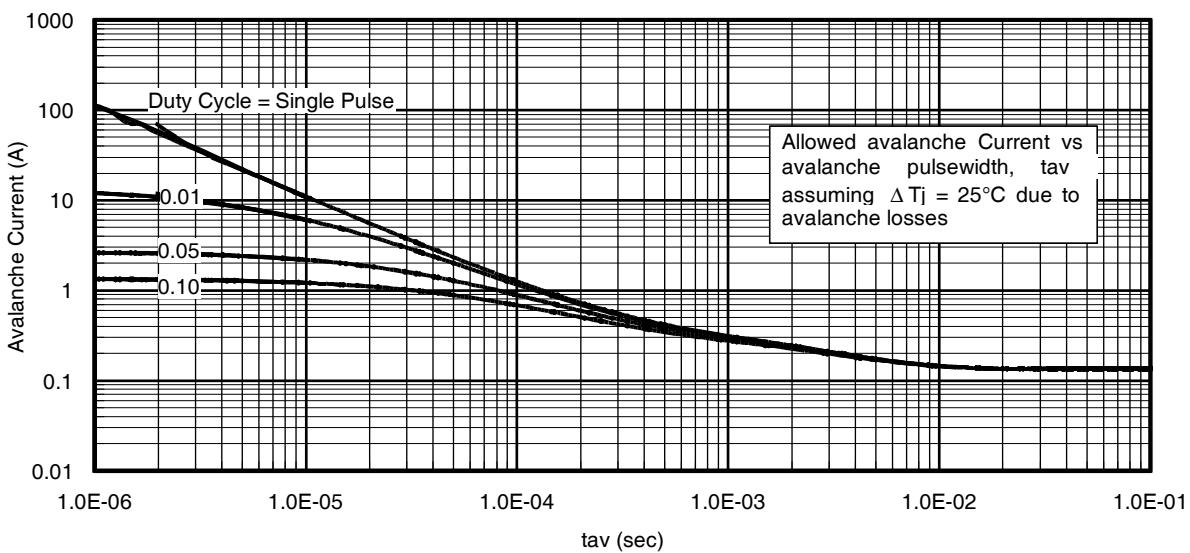

Fig 14. Typical Avalanche Current Vs. Pulsewidth
- ① Repetitive rating; pulse width limited by max. junction temperature.
② Starting $T_J = 25^\circ\text{C}$, $L = 1.62\text{mH}$, $R_G = 25\Omega$, $I_{\text{AS}} = 11\text{A}$.
③ Pulse width $\leq 400\mu\text{s}$; duty cycle $\leq 2\%$.
④ R_θ is measured at T_J of approximately 90°C .
⑤ Limited by $T_{j\text{max}}$. See Figs. 14, 15, 17a, 17b for repetitive avalanche information.
Notes on Repetitive Avalanche Curves , Figures 14, 15:
7. ΔT = Allowable rise in junction temperature, not to exceed T_{jmax} (assumed as 25°C in Figure 14, 15).